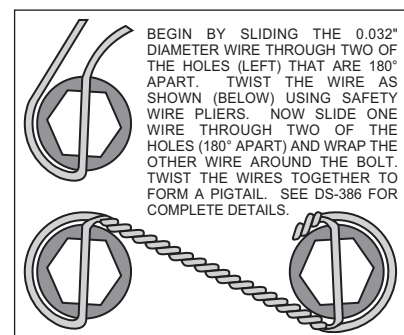

Figure 4. Safety Wire Diagram
•Align the correct hole pattern in the rotor (2) with the stud pattern on the axle flange. **NOTE:** Some OEM and after market axles come with stud sizes larger than 12 mm diameter. Verify stud size and have a qualified machine shop drill the hat section of the rotor to the correct size, if necessary. Slide the rotor (2) over the wheel studs covering the mounting bracket assembly (1) and against the axle flange face.
•**NOTE:** Please reference the caution statement at the beginning of the assembly instructions. WITH THE BLEED SCREWS POINTING UP, mount the caliper (3) over the rotor (2) and onto the caliper mounting bracket (1) using lock washers (4) and mounting bolts (5). View the rotor through the top opening of the caliper. The rotor should be aligned in the center of the caliper. If not, adjust the caliper by using 0.032 inch shims (6) by placing them between the caliper mounting bracket (1) and the caliper (3). Apply red *Loctite*® 271 to the mounting bolt threads (5), torque to 30 ft-lb. Safety wire the caliper mounting bolts (5) using standard 0.032 inch diameter stainless steel safety wire as shown in Figure 4. Please refer to Wilwood's data sheet DS-386 (available at www.wilwood.com/pdf/ds386.pdf) for complete safety wire installation instructions.